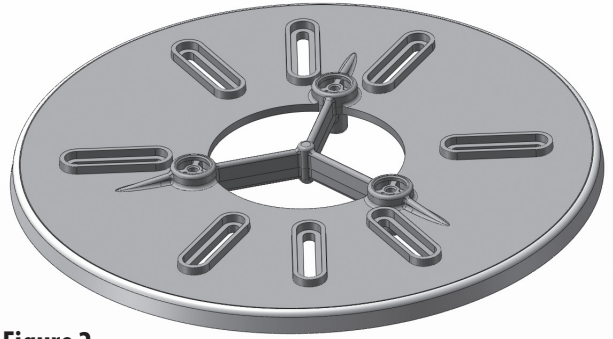

Figure 2
4. Place the Support Plate (#8) over the Vinyl Ring (#10) (Figure 2).